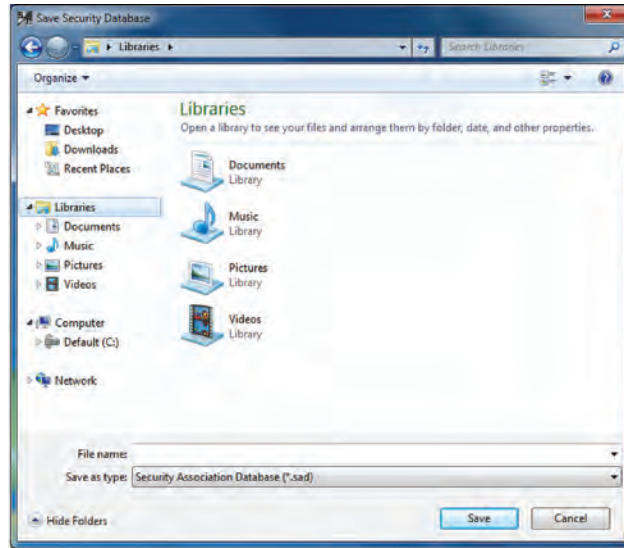
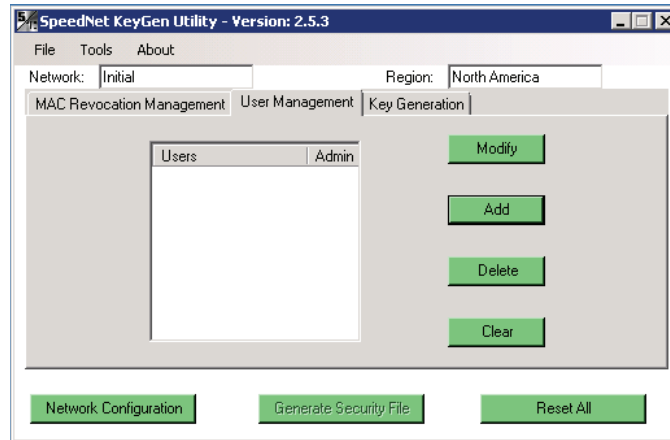

Figure 5. The Security Association Database save dialog box.
Figure 6. The KeyGen User Management window.
- STEP 7.** Save the Security Association Database file as a .sad file. See Figure 5. The **User Management** window will open. See Figure 6.